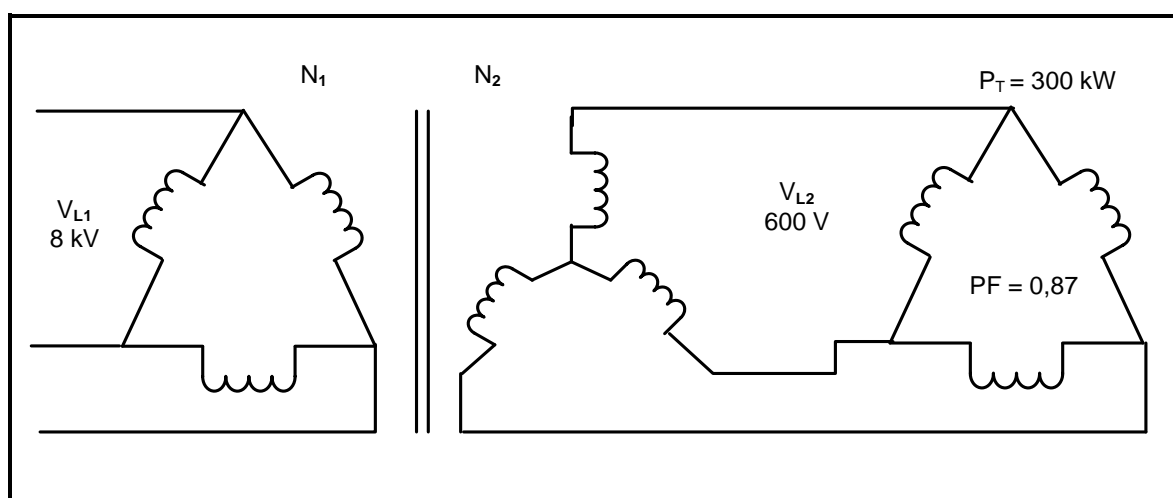

FIGURE 5.3: THREE-PHASE DELTA-STAR CONNECTED TRANSFORMER
5.3 FIGURE 5.3 below shows a 300 kW delta-connected load with a power factor of 0,87 that is connected to a delta-star transformer. The primary and secondary line voltages of the transformer are 8 kV and 600 V respectively. Assume that the transformer is 100% efficient. Answer the questions that follow.